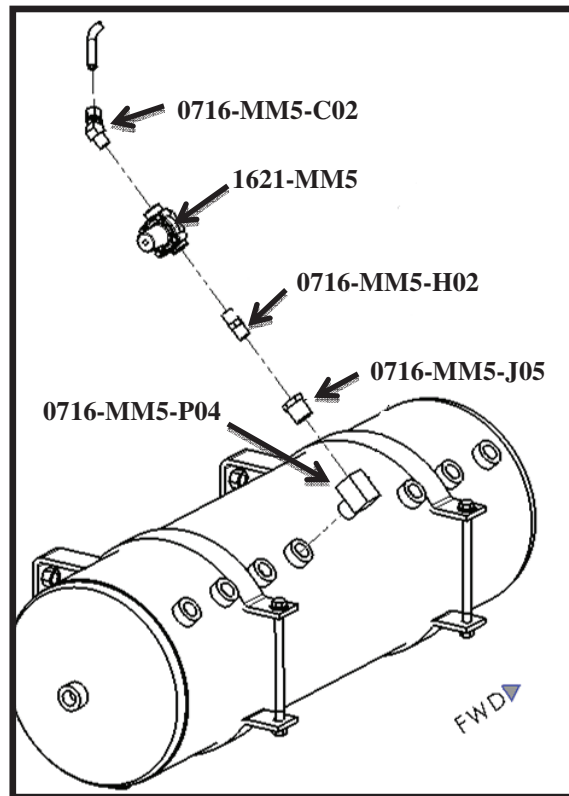

FIG. 8-1
21. Locate the secondary air tank and drain out all air. Locate an empty port and remove plug. Install fittings and pressure protection valve (PPV). Refer to FIG. 8-1.